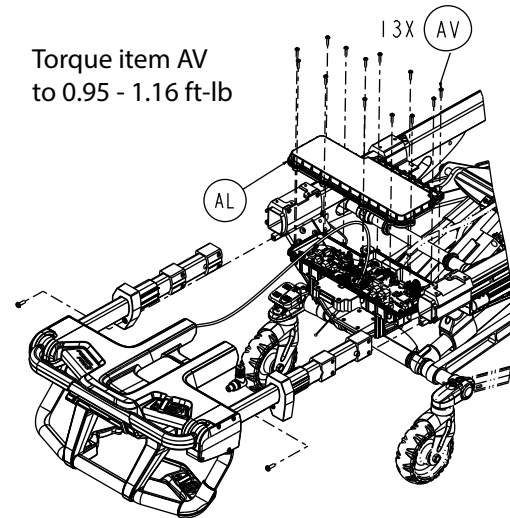

Figure 92 – Remove the FEIB enclosure screws
9. Using a T20 Torx driver, remove the thirteen round washer head tapping screws (AV) that secure the top FEIB enclosure (AL) to the bottom FEIB enclosure (Figure 92). Save the screws.